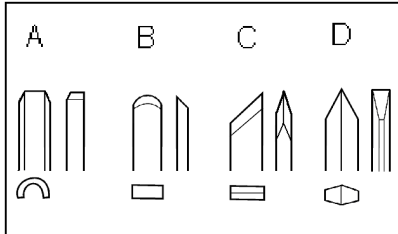
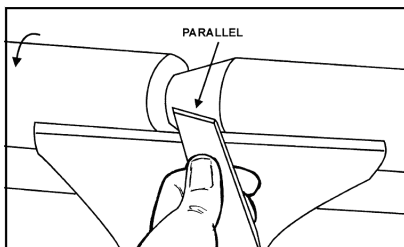

Fig 6
Fig 8
**Gauge (A, Fig 6)**, most important wood turner's tool.
**Scraper (B, Fig 6)**, used for internal and external diameter scraping and to reduce ridges.
**Skew (C, Fig 6)**, used to make vees, beads, etc. (Fig 8). The bevel of skew is parallel to the cut.
**Parting tool (D, Fig 6)**, used to cut directly into the material, or to make a cut off. Also used for scraping and to set diameters.